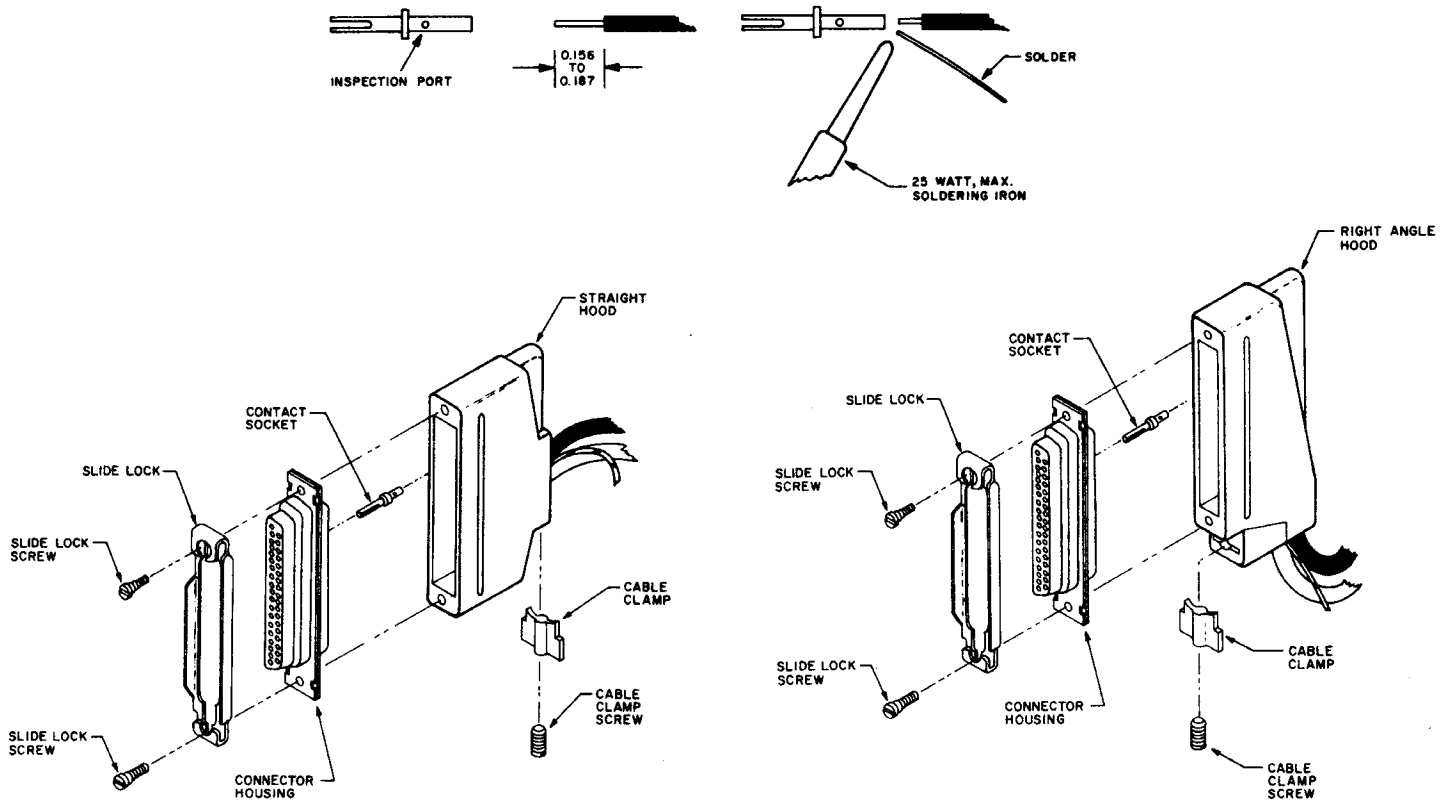

FIGURE 2-7. P810 ASSEMBLY
P810 is assembled as shown in Figure 2-7. While constructing the cable, be sure to pass wires through the hood before inserting pins into the connector.
1. Strip wire as shown in Figure 2-7. Maximum wire size is No. 20AWG.